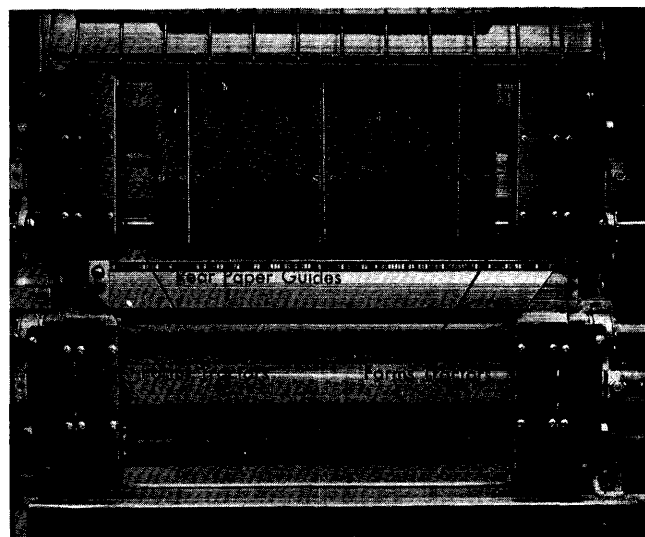

Figure 20. Forms Tractors, Models 1, 2, 4, 5, 6, 7
4. Set both the left-hand forms tractors slightly to the left of the first printing position. Pull the tractor until it latches in the appropriate notch (Figure 20).